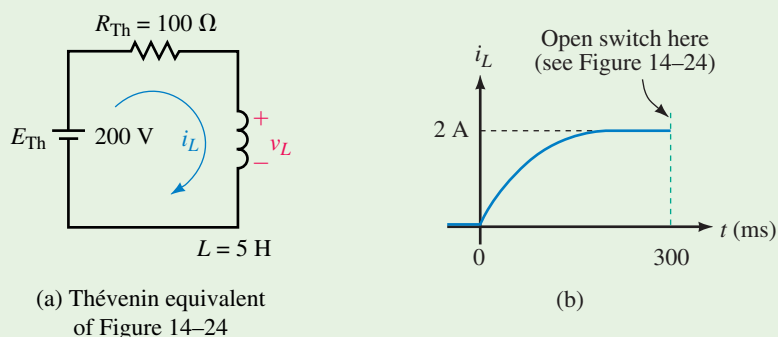
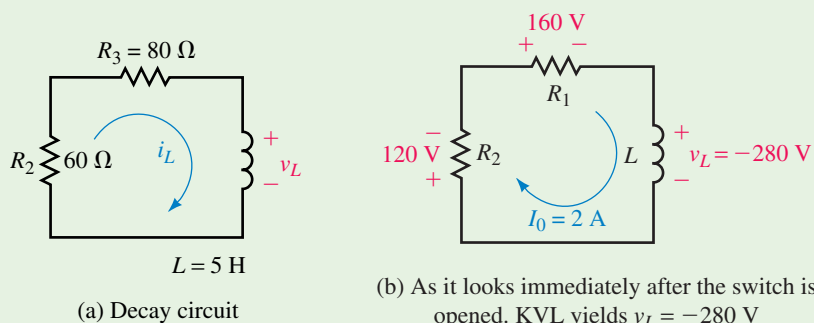

FIGURE 14-26 Circuit and current during the buildup phase.
FIGURE 14-27 The circuit of Figure 14-24 as it looks during the decay phase.
- b. Current buildup is sketched in Figure 14-26(b). Since $5\tau = 250$ ms, current is in steady state when the switch is opened at 300 ms. Thus, $I_0 = 2$ A. When the switch is opened, current decays to zero through a resistance of $60 + 80 = 140 \Omega$ as shown in Figure 14-27. Thus, $\tau' = 5 \text{ H}/140 \Omega = 35.7$ ms. If $t = 0$ s is redefined as the instant the switch is opened, the equation for the decay is
Now consider voltage. As indicated in Figure 14-27(b), the voltage across L just after the switch is open is $V_0 = -280$ V. Thus,